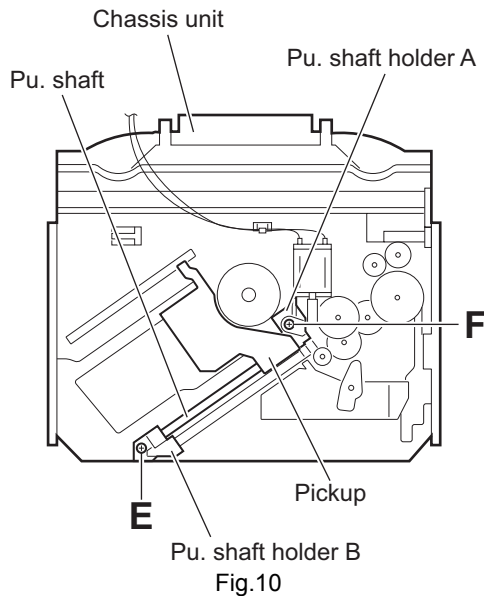

Fig.10
### 3.2.7 Removing the pickup (See Figs.10 to 12)
- (1) From the bottom side of the chassis unit, remove the screw **E** attaching the pu. shaft holder B and pull the pu. shaft out of the pu. shaft holder A. (See Fig.10.)
- (2) Remove the screw **F** attaching the pu. shaft holder A. (See Fig.10.)
### 3.2.8 Reattaching the pickup (See Figs.10 to 13)
- (4) Set the section **m** of the pickup to the rail of the chassis unit at first and attach the pickup to the chassis unit with the screw **F** as before. (See Figs.10 and 13.)
- (5) Attach the pu. shaft to the pickup as before. (See Fig.10.)
- (6) Attach the pu. shaft holder B to the chassis unit with the screw **E** as before. (See Fig.10.)